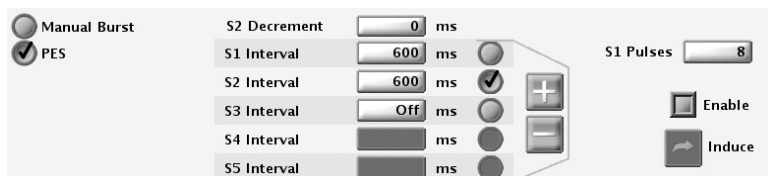

Figure 5–3. PES induction options
3. Select the desired value for the S1–S5 intervals (Figure 5–3 PES induction options on page 5-4). You can either select a value box for the desired S interval and choose a value from the box or use the plus or minus symbols to change the value visible in the value box.